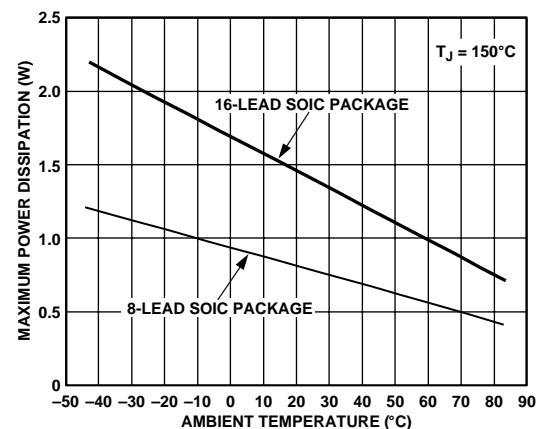

Figure 6. Maximum Power Dissipation vs. Temperature
| Small Outline (R) | See Figure 6 |
| Output Short-Circuit Duration | See Figure 6 |